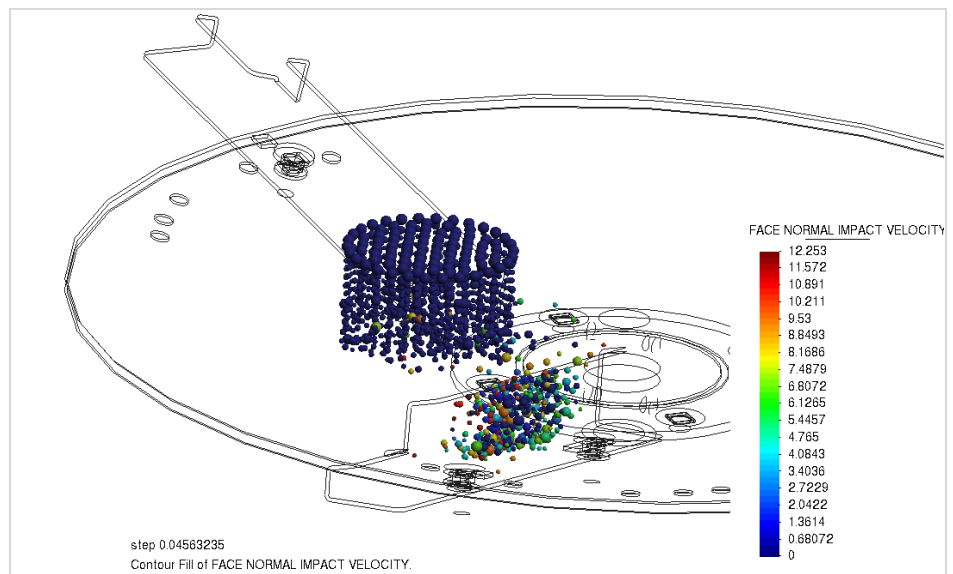

Figure 45. Normal impact velocity
- Normal and tangential impact velocities:** velocity components of the particles colliding with each other (*particle-particle*) or with the rigid bodies such as the disc vanes or deflectors (*particle-wall*) (Figure 45). Units are meters per second. This result may help in the design of the dosing system to avoid the breakage of the fertilizer particles into fines.